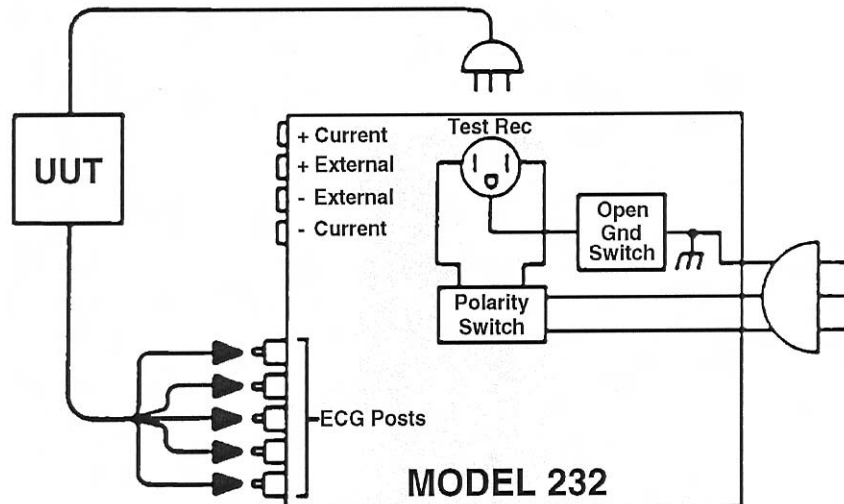

Figure 2-6. Electrocardiograph patient lead test connections.
a. **Check the Patient Lead Leakage Current to Ground.** Refer to figure 2-6. Perform the following steps:
- (1) Set the mode switch to ECG.
- (2) Connect the patient leads to the ECG binding posts on the top panel of the safety analyzer.
(3) Set the ECG selector switch to ALL. Set the corresponding switch of the UUT to the same position. Measure the leakage current from all leads to ground. Make patient lead current leakage measurements for the following conditions with normal polarity selected.
- (4) The next five switch positions measure the leakage current of individual leads to ground.
b. **Check Interlead Leakage Current.** Refer to figure 2-6. Perform the following steps:
(2) Set the ECG switch to RA-LA. If possible, set the corresponding switch of the UUT to the same position.
(3) Measure the leakage current between leads for the following conditions with normal polarity selected:
(4) Perform steps (1) and (2) for the other interlead positions (RA-RL and LA-RL). Ensure that you change ECG switch positions for both the safety analyzer and the UUT.